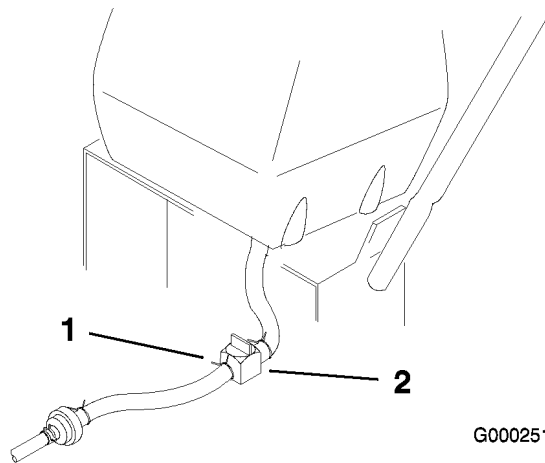

Figure 35
2. Close the fuel shut-off valve at the fuel tank (Figure 35).
3. Squeeze the ends of the hose clamp together and slide it up the fuel line away from fuel filter (Figure 35).
4. Pull the fuel line off the fuel filter (Figure 35). Open the fuel shut-off valve and allow the gasoline to drain into a gas can or drain pan.
2. Close fuel shut-off valve at the fuel tank (Figure 35).
6. Open fuel shut-off valve at fuel tank (Figure 35).